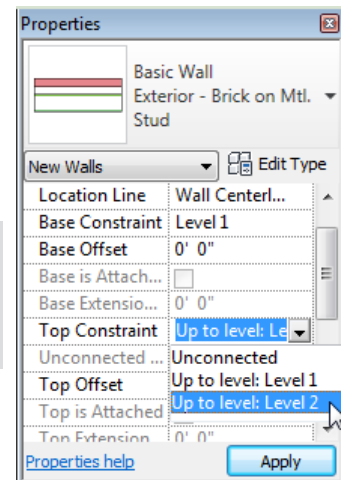

Figure 3-30 Setting the **Top Constraint** parameter using the **Properties** palette
- d. Modify **Top Constraint- Up to level: Level 2** and **Location Line - Wall Centerline** as wall properties using the **Properties** palette, refer to Figure 3-30.
1. In the **Properties** palette, ensure that the **Location Line** parameter has **Wall Centerline** as the default value. Click on the column adjacent to the **Top Constraint** instance parameter; a drop-down list is displayed. Select **Up to level: Level 2** from this drop-down list, and choose the **Apply** button, as shown in Figure 3-30.